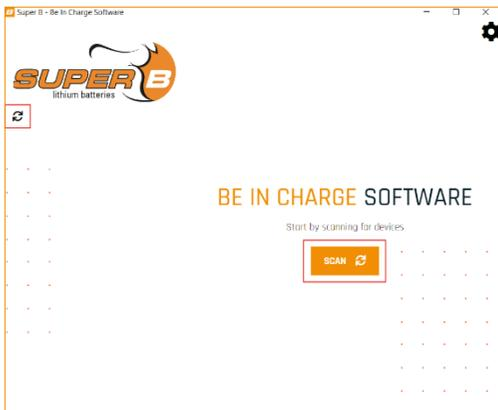
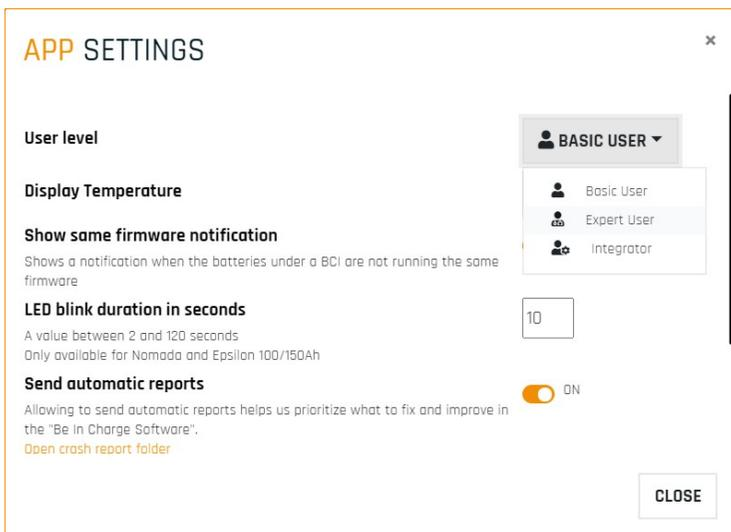

Figure 34. 'Scan' for devices
Figure 35. Set to expert user
3. To make changes to battery Node ID it is necessary to set the user level to 'Expert User' (Figure 34, Figure 35)